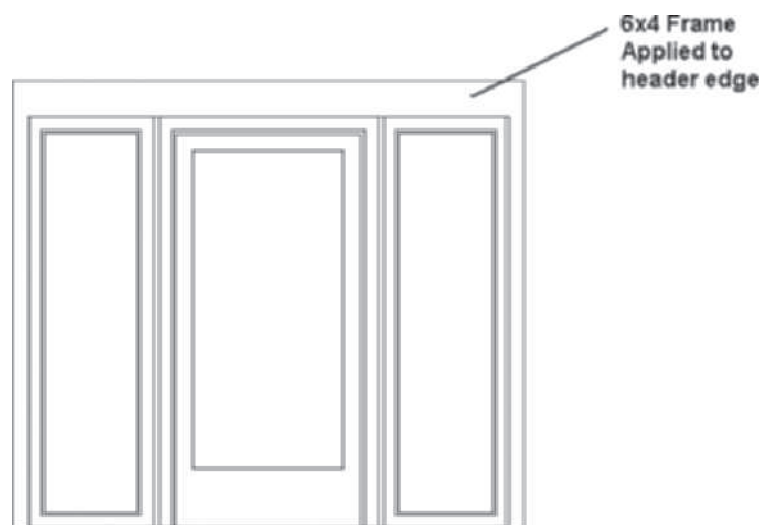

FIGURE 6.23 Frame adjusted using Override Assignment
4. Click **OK** to dismiss the **Frame Assignment Override** dialog box. The frame header is increased as shown in Figure 6.23.